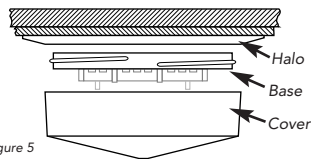

Figure 5
19. Slide the cover, and halo if used, up the pendent cable and screw the cover onto the base until secure against the ceiling. See Figure 5.